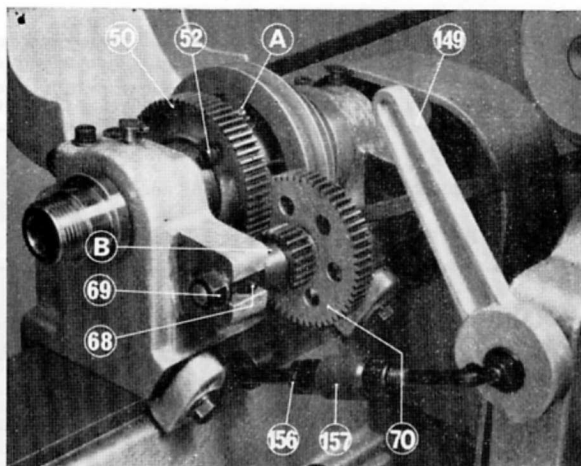

Fig. 7. Headstock and belt tension controls.
3. Headstock pulley (see also "A", Fig. 7, page 8). Lubricate with oil gun every 4 hours when backgear is in use.
4. Backgear shaft (see also "B", Fig. 7, page 8). Lubricate every 4 hours when backgear is in use.
The backgearing is engaged by first releasing the cap screw item 52 and then sliding the key item 51 out of engagement. The cone pulley will then be free on the spindle. Next release the hexagon nut item 69 and slide the backgear cluster assembly on its shaft into engagement. This assembly consists of items 67, 68, 70, 71 and 72. With the hexagon nut item 69 finger tight in order to prevent the backgear shaft from twisting sideways the assembly should be moved inwards as far as possible until its movement is arrested by the socket set screw item 68 (see Fig. 7 overleaf) which serves as an adjusting screw to ensure correct depth of engagement. The hexagon nut item 69 should then be tightened securely.